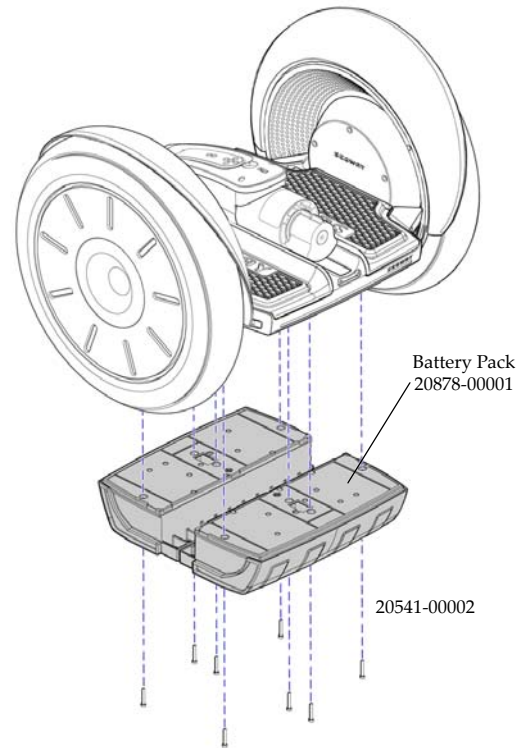

Figure 3-1: Remove or Install Battery
2. Position Segway PT on an angle or upside down so that bottom of chassis is exposed. See Figure 3-1.
5. Out of the four SHCS, M4 x 0.7 x 30, self-sealing hex fasteners (20541-00002) supplied with battery kit, use 3mm torque wrench to first install and tighten (2) **center** fasteners to 1.6 N-m.
6. Using 3mm torque wrench, install and tighten remaining (2) **outer** fasteners to 1.6 N-m.